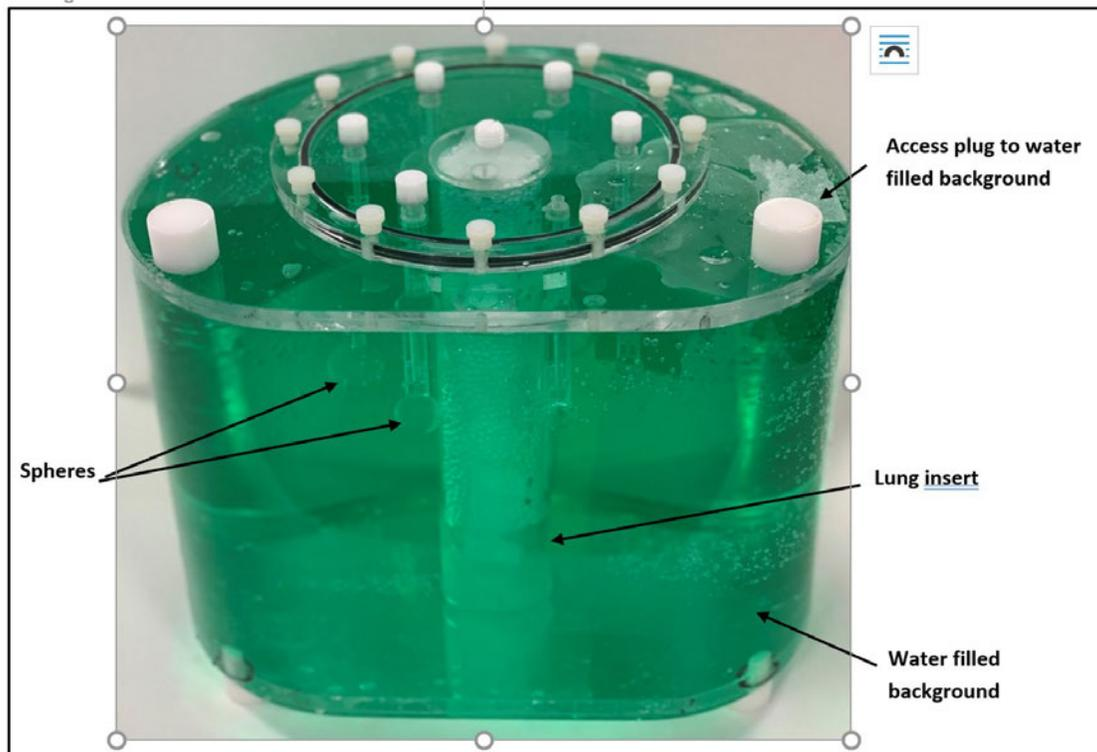
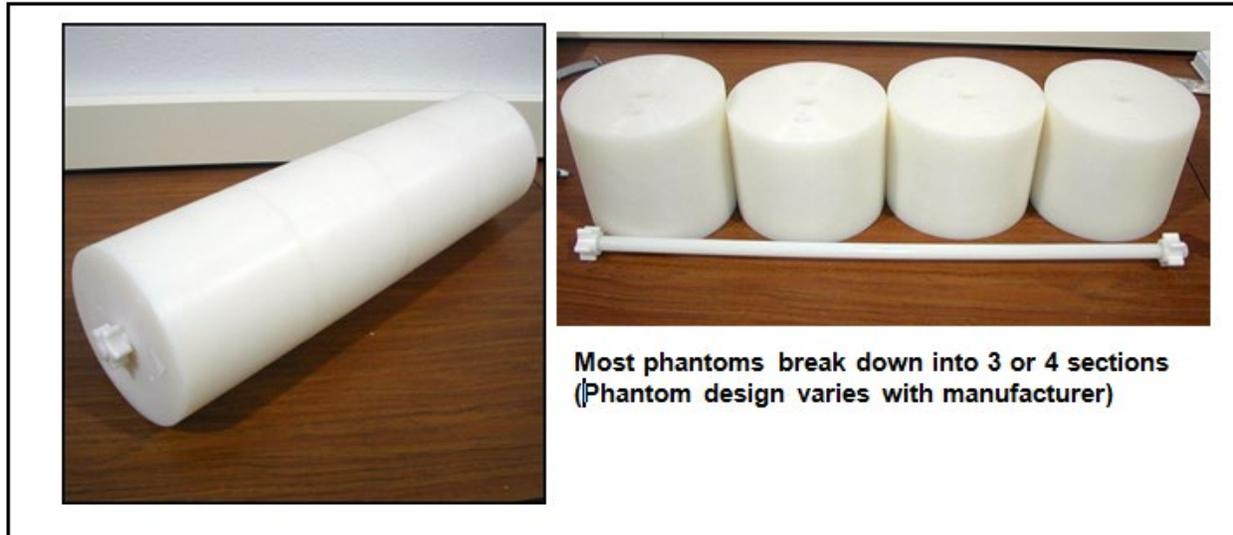

Figure 4.1: Example of an Image Quality Phantom - change for NEMA 2018.
Figure 4.2: Example of a NEMA Scatter Phantom.
The image quality test simulates a PET-CT whole body clinical use case. Refer to Figure 4.1. The test phantom presents different sized hot spheres in a volume of non- uniform attenuation. Additional activity is placed outside the scan FOV, to represent scatter radiation, refer to Figure 4.2. Image quality is reported in terms of image contrast and signal-noise ratios for the hot spheres.
1. Refer to Figure 4.1 and Table 3. The typical background volume equals the volume of the phantom minus the volumes of the lung insert and sphere assembly. A typical background volume is 9792 cc. Total volume of all filled spheres is approximately 60 cc.
3. Refer to Figure 4.1. Fill the Image Quality phantom lung insert with lung simulating material with an average density of 0.3 g/cc.